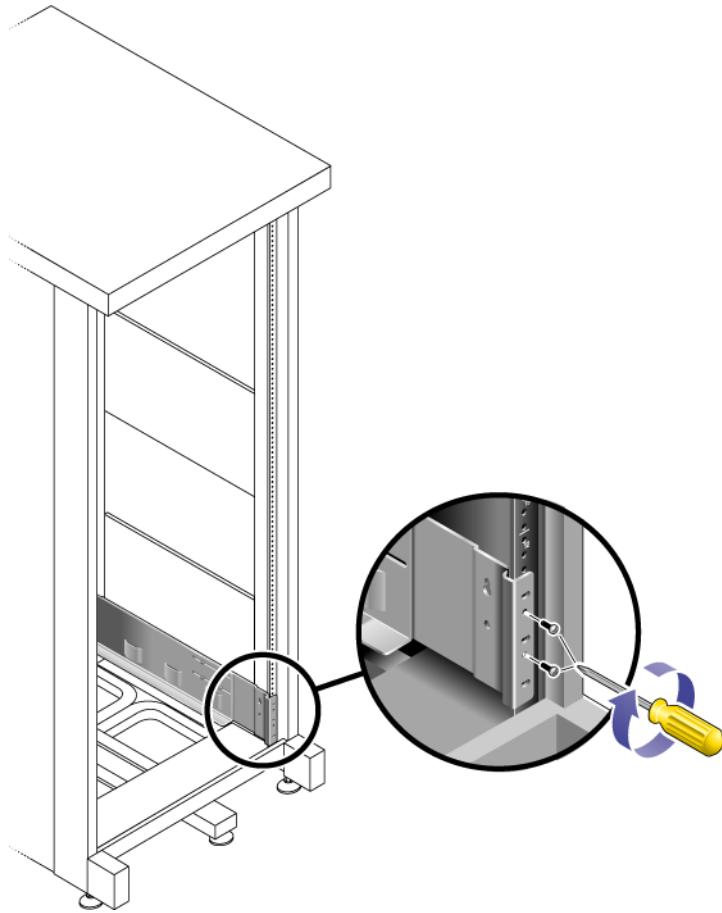

FIGURE 2-18 Securing the Left Rail to the Back of the Cabinet
d. Depending on the type of cabinet you have, do one of the following (FIGURE 2-18):